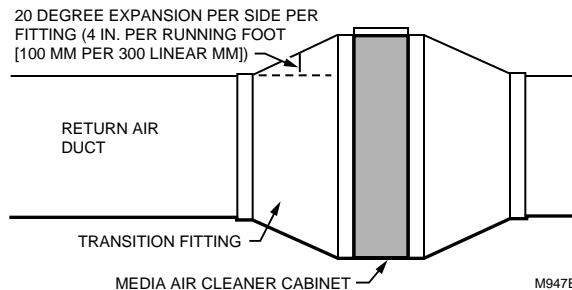

Fig. 10. Duct size changed gradually to prevent turbulence.
1. Use gradual transitions to reduce air turbulence and increase efficiency. See Fig. 10.